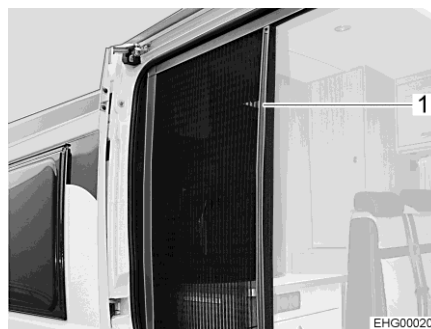

Fig. 19 Insect screen
- Pull out the insect screen completely by the bar (Fig. 19,1).
- Push the insect screen into its initial position by the bar (Fig. 19,1).